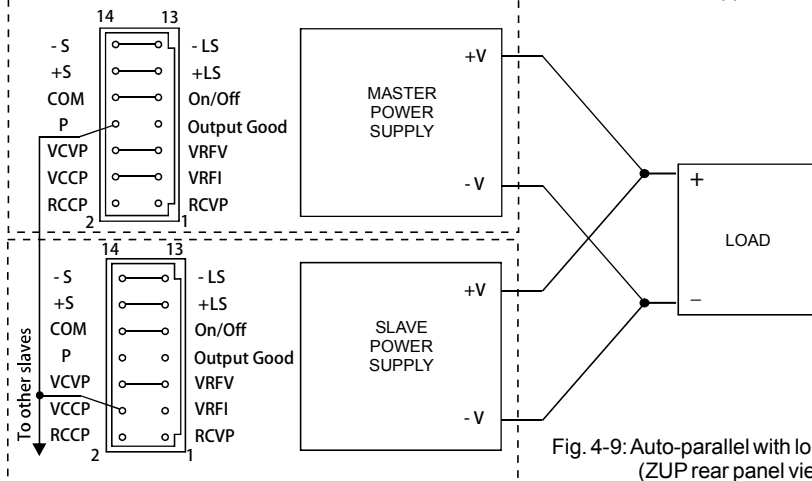

Fig. 4-9: Auto-parallel with local sensing (ZUP rear panel view)
6. **Connection to the Load:** At auto-parallel mode, power supplies can be connected in local or remote sensing. Refer Fig. 4-9, 4-10 & 4-11 for typical connections of paralleled power supplies. The figure